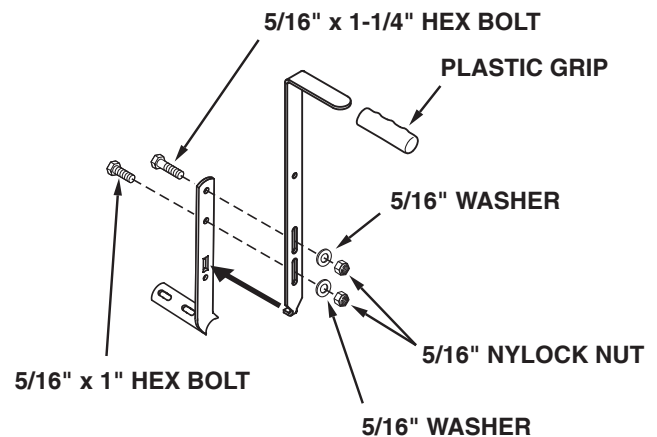

FIGURE 7
16. Assemble the plastic grip onto the upper height adjust handle. See figure 7.
17. Fasten the upper and lower height adjust handles together as shown in figure 7. Use one 5/16" x 1" hex bolt, one 5/16" x 1-1/4" hex bolt, two 5/16" washers and two 5/16" nylock nuts. Place the washers against the slots in the upper handle. Tighten the nuts and then loosen 1/2 turn so that the handles slide easily. See figure 7.